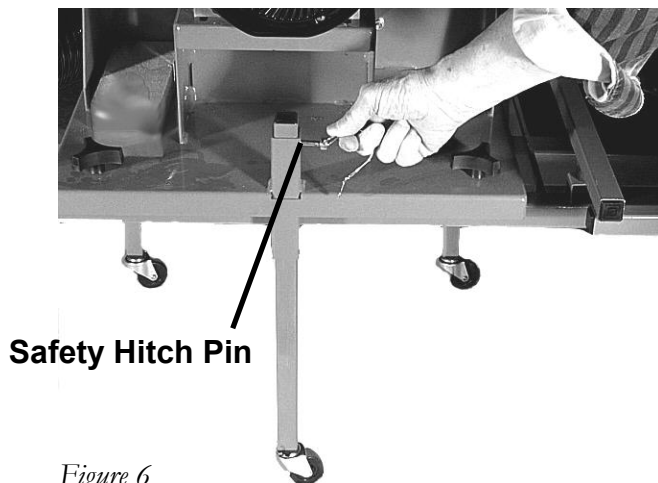

Figure 6
14. Holding the tongue level, remove the Safety Hitch Pin from the nearest Support Leg w/Caster in the front of the trailer frame and allow the leg to drop. Replace the Safety Hitch Pin in the hole provided to secure the leg in the down position (*Figure 6*).
15. The remaining two (2) legs are installed upside down for packaging. You need to remove them and reinstall them from the bottom, making sure that the holes in the legs are on the same sides as the holes in the Engine Plate tubes. Replace the Safety Hitch Pins in the holes provided to secure the legs in the down position (*Figure 6*).